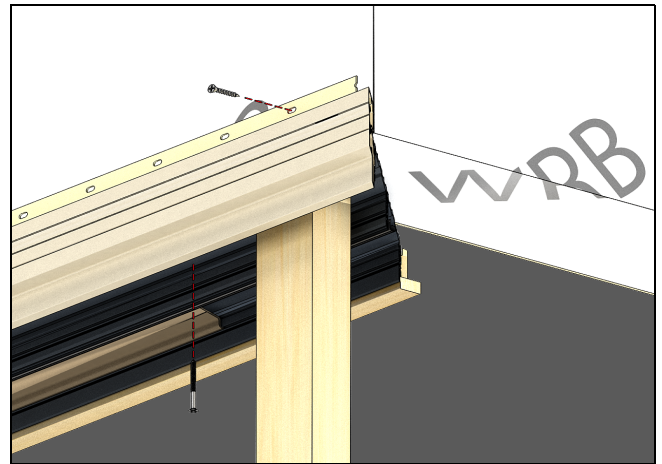

Figure 9
9. Place the frame in the opening and loosely install a few fasteners in the head jamb and side jamb. See Figure 9.